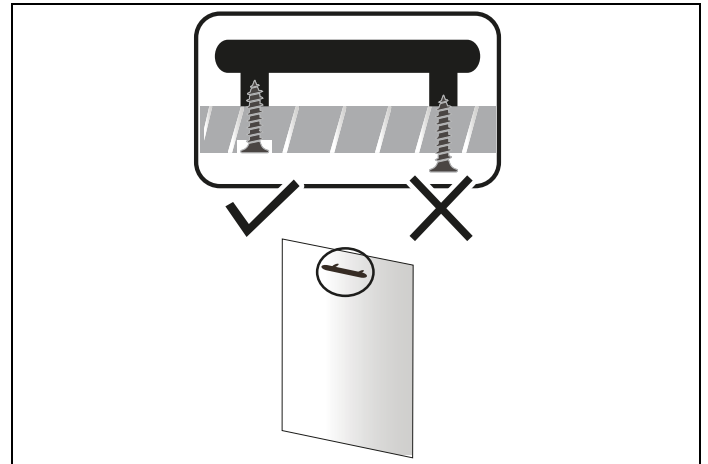

Fig. 26
- 5) Before mounting the wooden door on the dishwasher, mount the handle on the wooden door as in Fig. 26 .